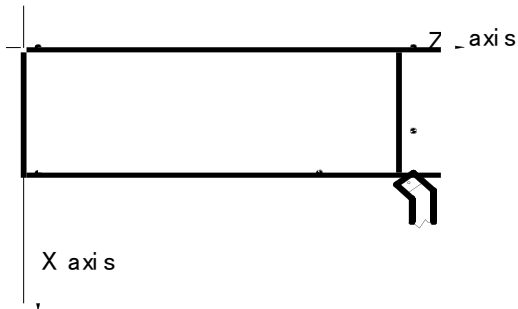

Fig. 7-1
4. Position the tool nose of the reference tool to a point (toolsetting point), as shown in Fig. 7-1;